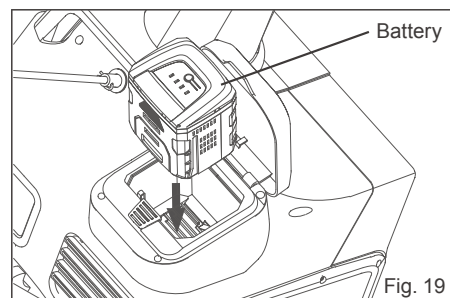

Fig. 19
1. Open the battery housing cover and slide battery down until it clicks to lock it into position, then close the battery chamber cover (Fig.19).